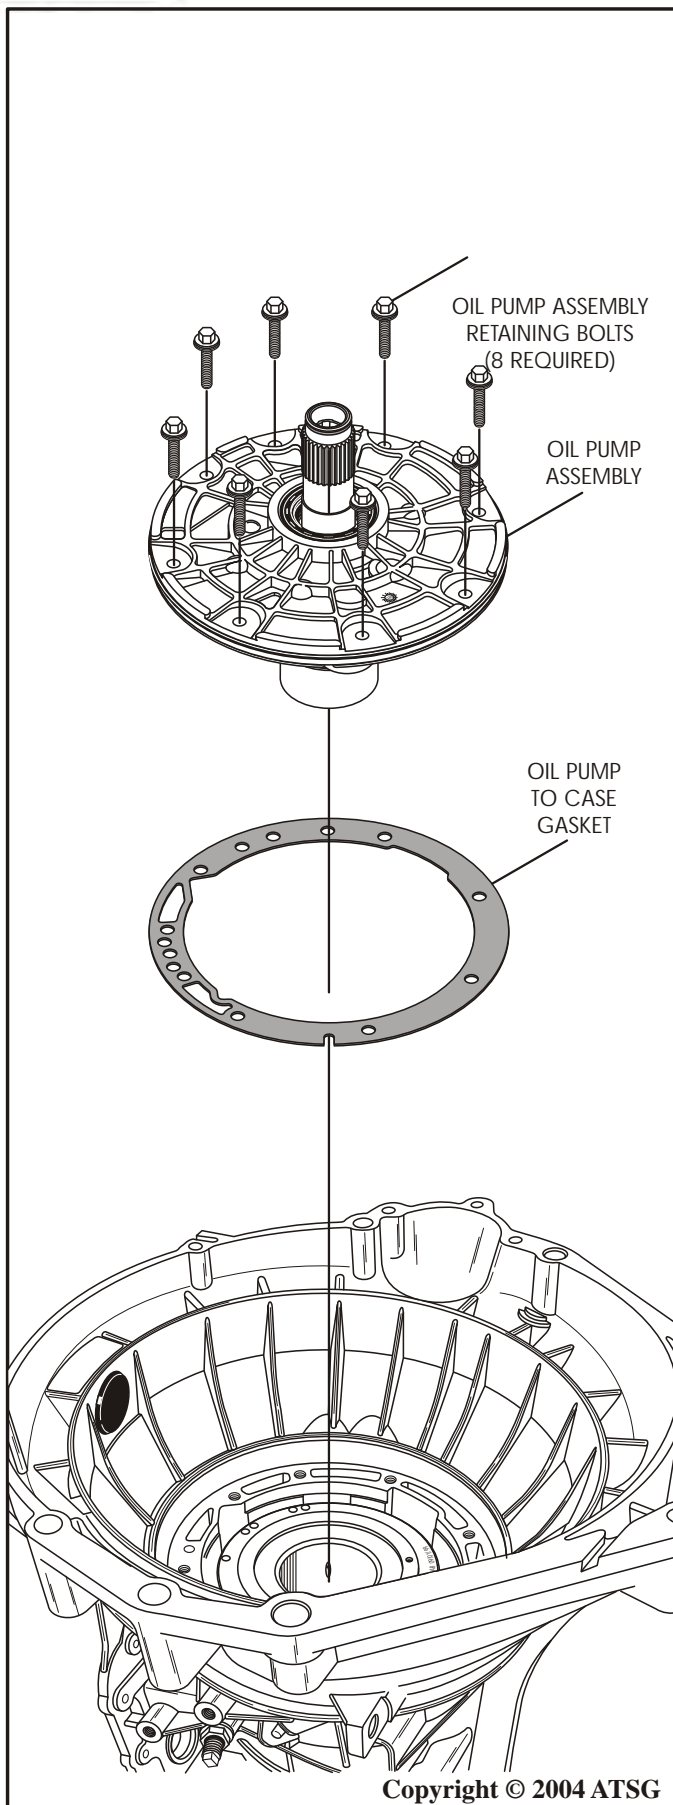

Figure 167
54. Install the oil pump to case gasket into case, as shown in Figure 167, and align holes.
56. Install the pre-assembled oil pump assembly into the case, as shown in Figure 167, using care not to damage the pump "O" ring.